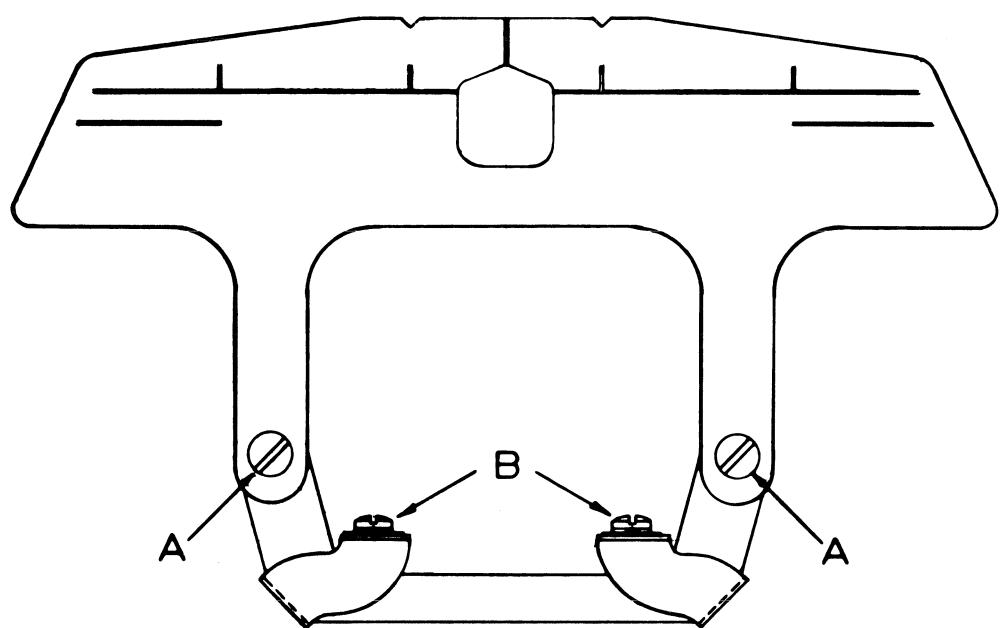

FIGURE 7-14
The reference marks inscribed on the card guide should appear as in Figure 7-14. Registration should be re-checked following adjustment of the card guide depth, or any time that it is sufficiently imperfect to inconvenience the operator.
- (1) First adjust the vertical alignment, by disabling the CARR test switch on the #1 printed circuits board, and moving the carriage to the center of the line.
- (2) Loosen the two retaining screws  shown in Figure 7-14.
- (3) Position the card guide to obtain the best alignment of the horizontal registration marks and the printed line, as shown in the diagram.
- (4) Secure the card guide by re-tightening the two retaining screws.
- (5) Next adjust the lateral alignment of the guide. Move the carriage to the approximate center of the page, return the CARR test switch to its normal operating position, and print a single capital "I" for reference.
- (6) If the vertical registration mark does not bisect the printed character, loosen the two retaining screws (B) shown in Figure 7-14.
- (7) Position the card guide to obtain the best adjustment and secure it in place by re-tightening the two retaining screws.
- (8) Again check the vertical alignment and re-adjust as necessary. This completes the registration adjustment.